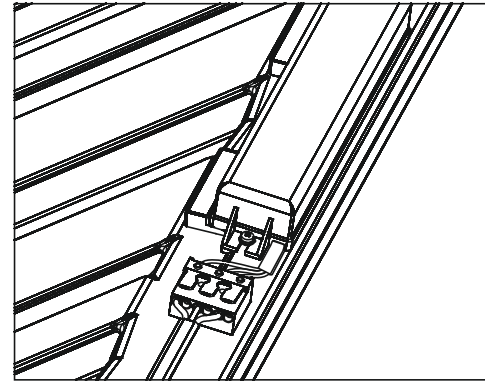

Fig. 1
- connect the power wire and ground wire to the terminal block according to the marking (fig.1);